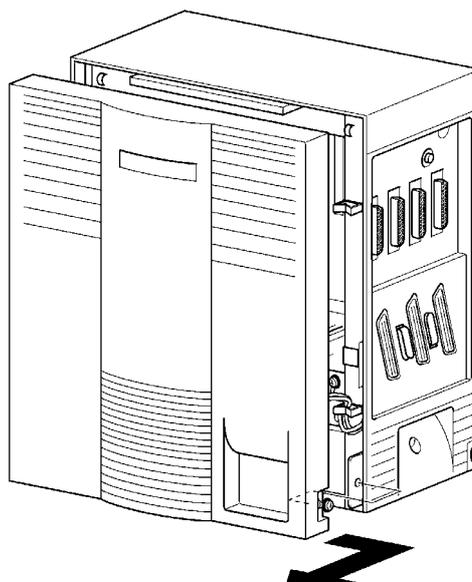

Figure 4-3 Removing the Front Panel of the KSU
1. Turn off the power switch and remove the front cover on the KSU. (Refer to *Figure 4-3 Removing the Front Panel of the KSU*).